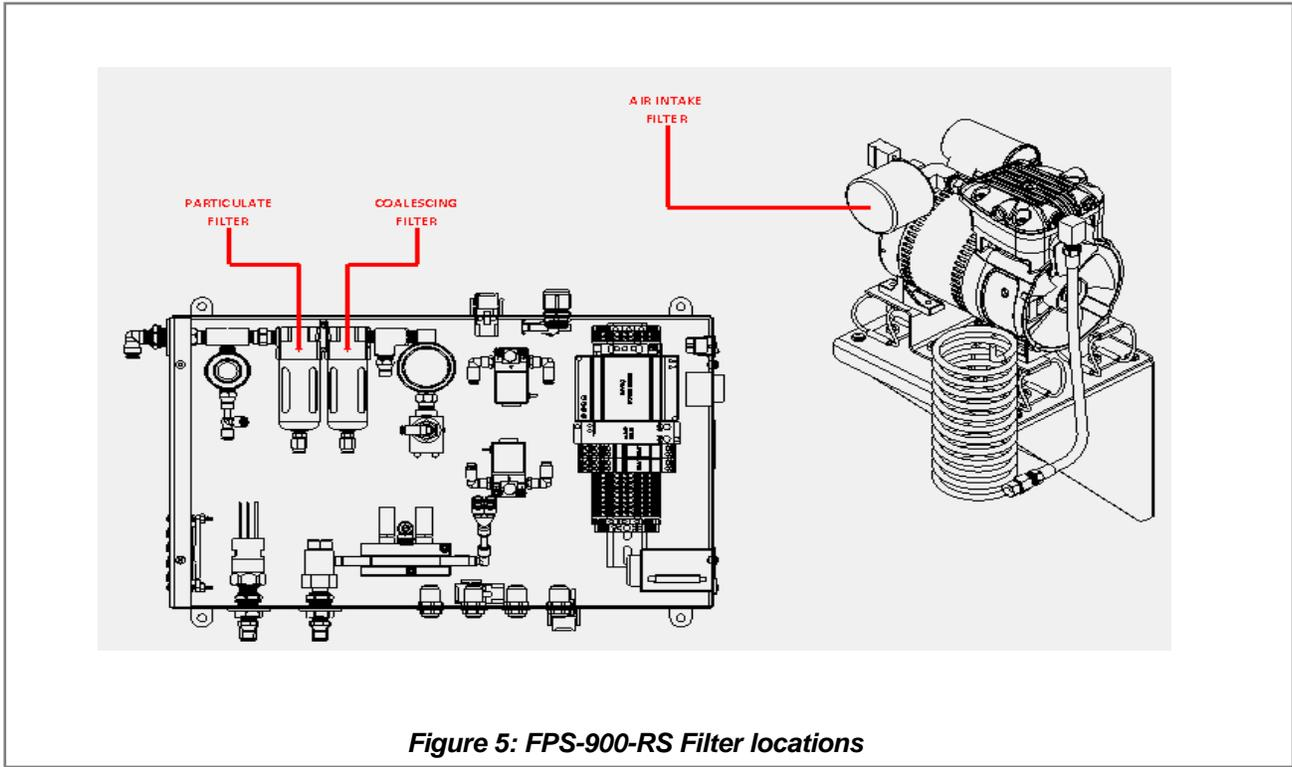

Figure 5: FPS-900-RS Filter locations
1. Turn off the unit and remove the cabinet cover, by removing four (4) screws.
2. Locate the air filters on the bracket in the middle of the cabinet. See **Figure 5**.